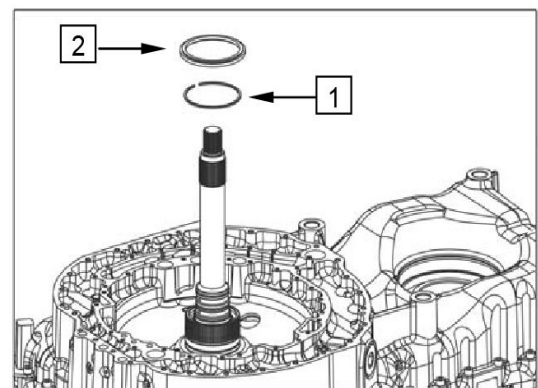

Figure 632
Pay attention to installation position of the flange bush (2). (see Figure 632).